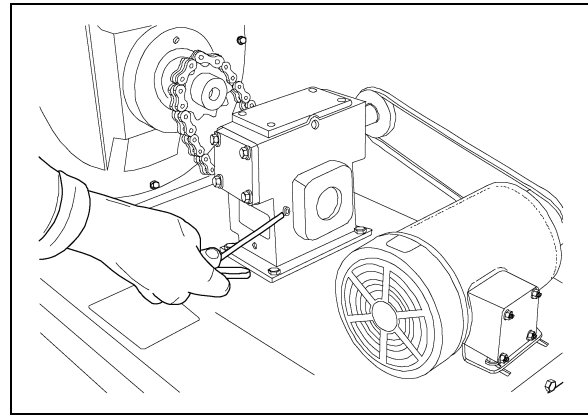

Figure 4O
10. Check the oil level in the gearbox by removing the plug and noting if the oil is at this level. Add SAE 80-90 gear lubricant if required. \(See Figure 4O\).